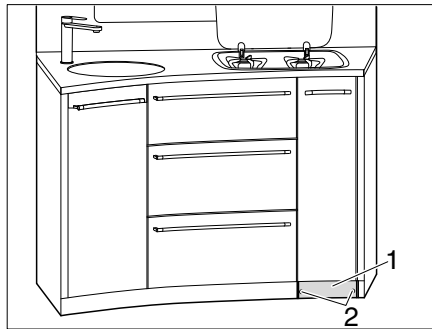

Fig. 126 Unscrewing skirting board
- Unscrew 2 screws (Fig. 126,2) from the skirting board (Fig. 126,1).
- Remove the skirting board (Fig. 126,1).